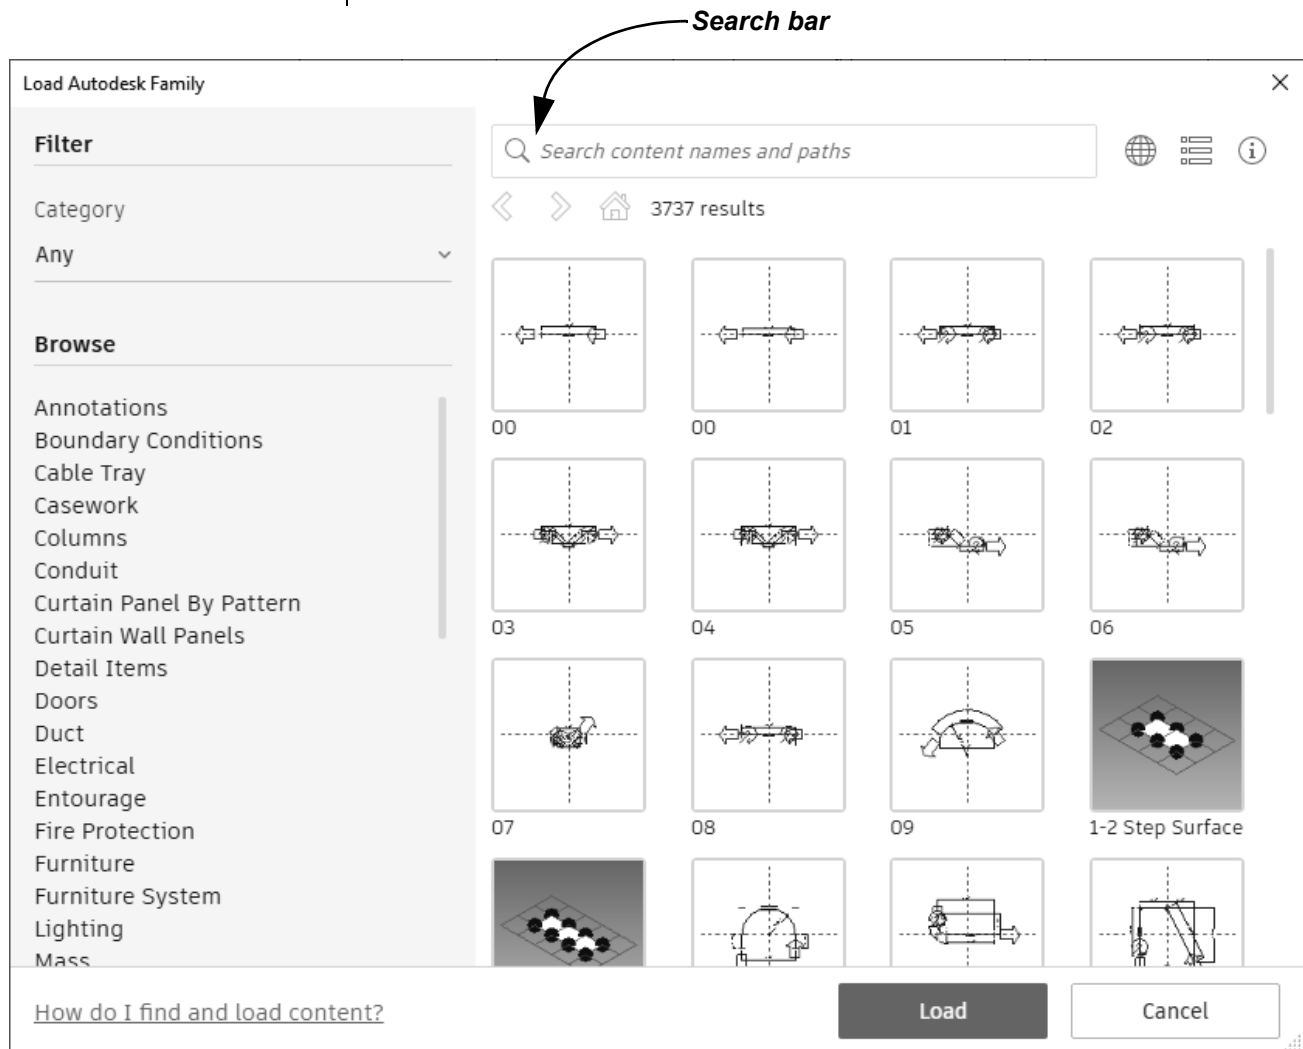

Figure 1–11
2. In the Load Autodesk Family dialog box, filter your search by typing in what kind of family you are looking for or click on a category in the *Browse* section, as shown in Figure 1–11.